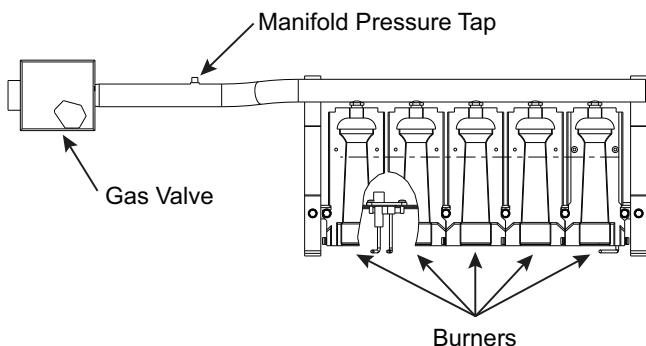

Fig. 59 – Burner Tray Details
10. Slide the burner tray out of the unit (see Fig. 59).
2. Remove manifold pressure tap plug from manifold and connect pressure gauge or manometer. (See Fig. 59.)
11. Turn off unit, remove pressure manometer and replace the manifold pressure tap plug. (See Fig. 59.)